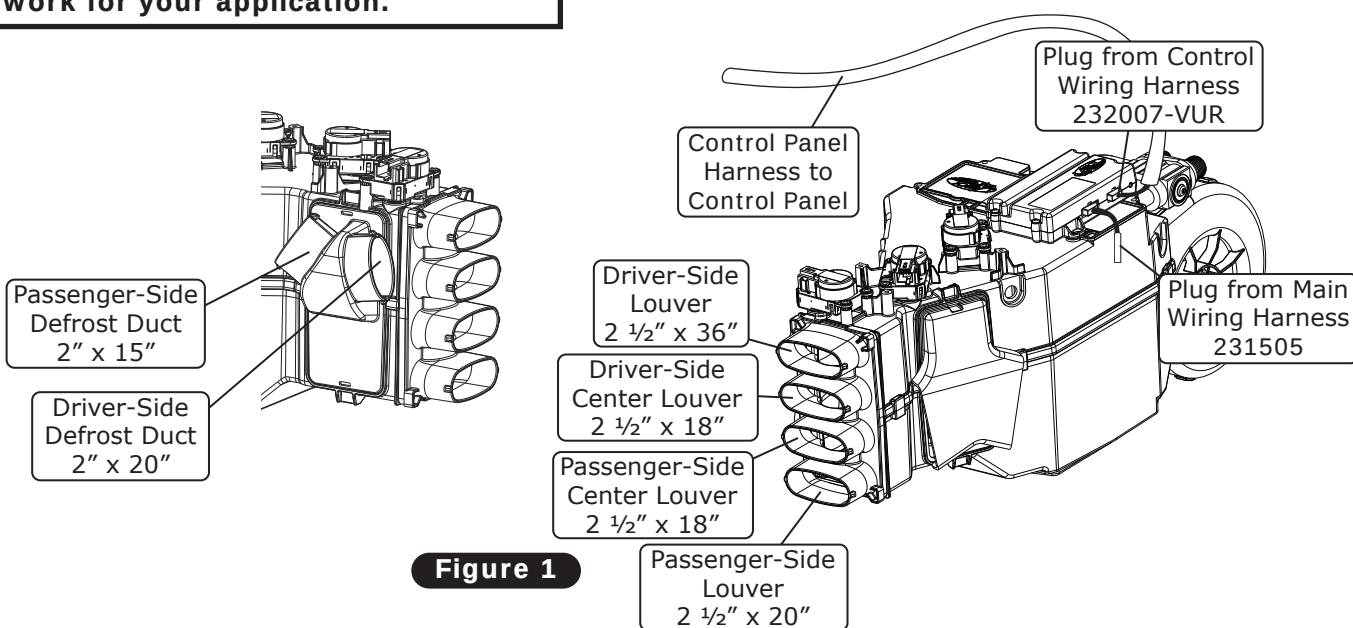

Figure 1
5. Install the new glove box using OEM screws (See Figure 1, below).
2. Refer to Figure 1, below, for duct hose routing.
3. Attach 2 1/2" duct hose to each hose adapter and connect to the evaporator as shown in Figure 1, below.